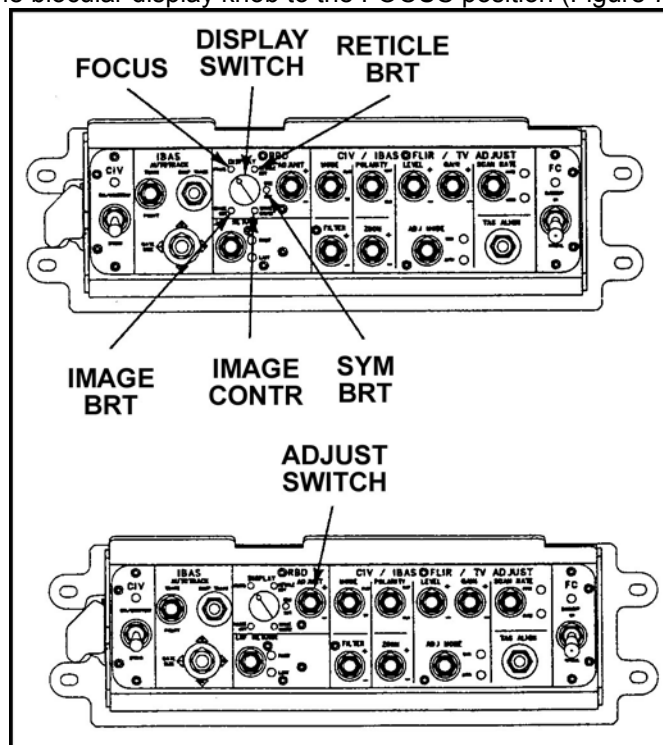

Figure 7. Biocular display knob.
- (2) Ensure the manual indicator light is still lit.
(3) Move the LEVEL toggle switch up or down to adjust the LEVEL in the sight.
(4) Observe the momentary level adjustment bar on the left side of the screen in the sight.
(5) Move the GAIN toggle switch up or down to adjust the GAIN in the sight.
(6) Observe the momentary gain adjustment bar on the left side of the screen in the sight.
(7) Rotate the biocular display knob to the FOCUS position (Figure 7).
- (8) Move the adjust switch up and down until the sight is focused.
(9) Observe the momentary focus adjustment bar on the left side of the screen in the sight.
(10) Rotate the biocular display knob to image contrast (IMAGE CON).
(11) Move the adjust switch up and down until the sight has sufficient image contrast.
(12) Observe the momentary gray scale on the right side of the screen in the sight.
- (13) Rotate the biocular display knob to image brightness (IMAGE BRT).
- (14) Move the adjust switch up and down until the sight has sufficient image brightness.
- (15) Observe the momentary gray scale on the right side of the screen in the sight.
- (16) Repeat, if necessary, steps (1) through (15) until sight is adjusted.
- h. Adjust the reticle brightness (refer to Figure 7).
- (1) Rotate the biocular display knob to reticle brightness (RETICLE BRT).
- (2) Move the adjust switch up and down until the reticle has sufficient brightness.
- (3) Observe the reticle through the sight.